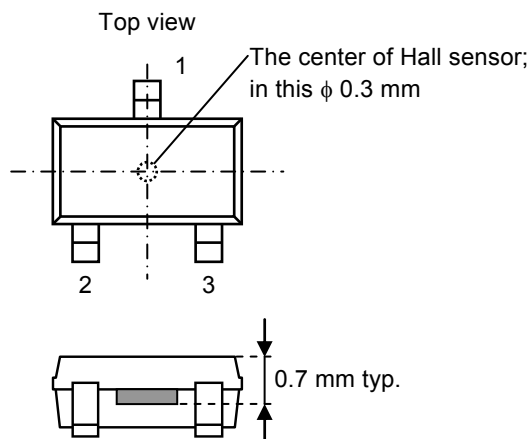

Figure 11
**Figure 11** shows the position of Hall sensor.